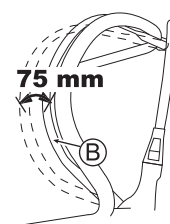

Fig. 35.
Adjust so that the machine runs (the drive clutch gets engaged) when the distance between Drive clutch lever (B) and the handle is 75 mm as shown in Fig. 35.